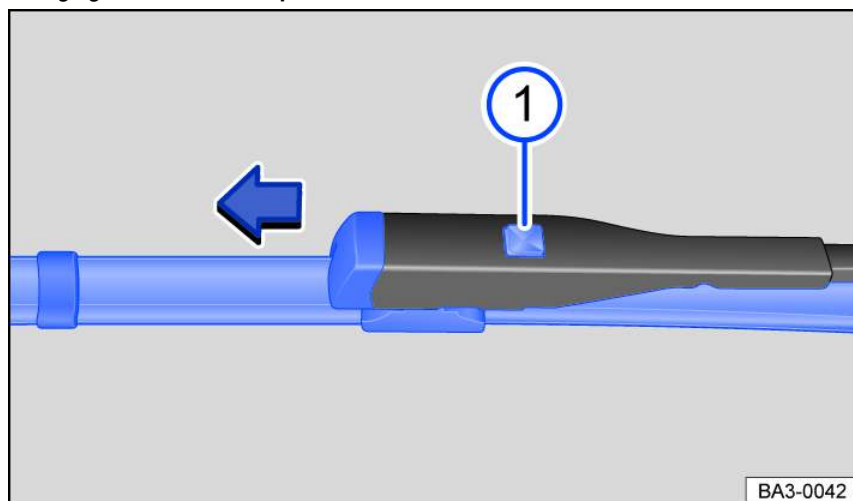

Fig. 126 Changing the windshield wiper blades.
3. Press and hold the release button and remove the wiper blade at the same time in the direction of the arrow *fig. 126* .